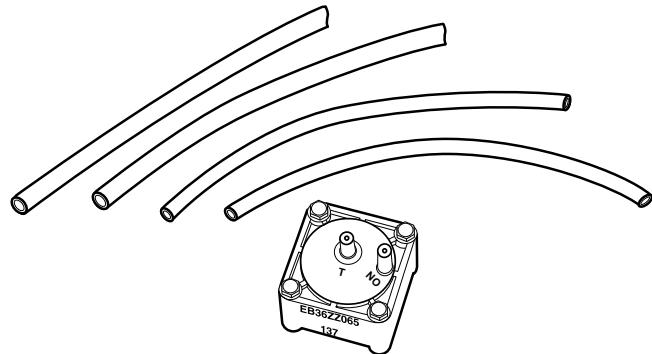

Fig. 1 — Pneumatic Warm-Up/Fire Safety Switch Package Contents
Control Package — The pneumatic warm-up switch/fire safety switch and components are shown in Fig. 1. Note that one device is used in both applications and in both normally open (NO) and normally closed (NC) configurations.